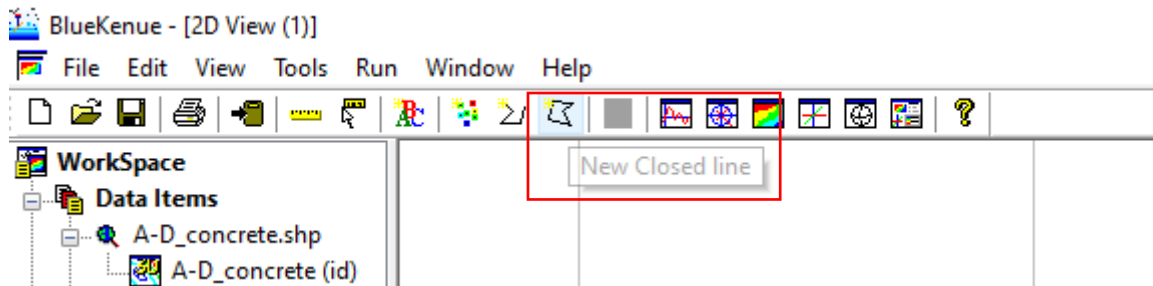

Figure 10: New Closed line tool in BlueKenue.
1. Instead of creating the polygons on QGIS it is also possible to define the different roughness areas directly in BlueKenue by generating a series of Closed Lines (Figure 10).